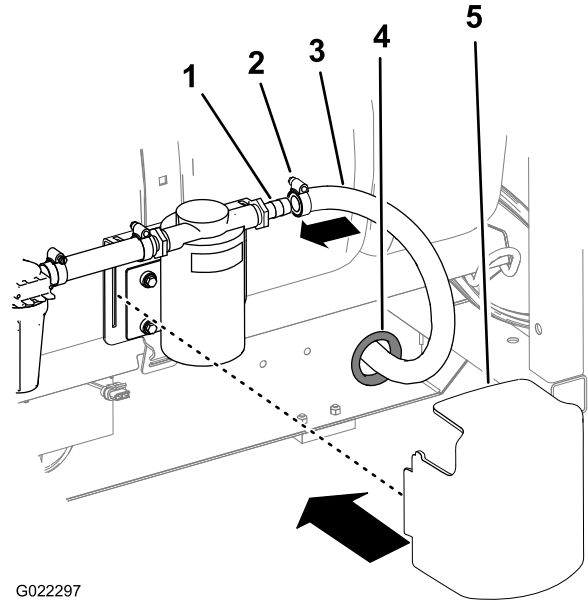

Figure 12
- Install the hose grommet into the hole at the right side of the sprayer frame near the rinse tank (Figure 12).
- Route the hose through the previously installed gasket in the side of the frame (Figure 12).
- Attach the end of the 101.5 cm (40 inch) hose to the straight barbed fitting on the rinse pump, and secure it with a hose clamp (Figure 12).
- Secure the rinse-pump cover over the pump using 2 hair pins (Figure 12).